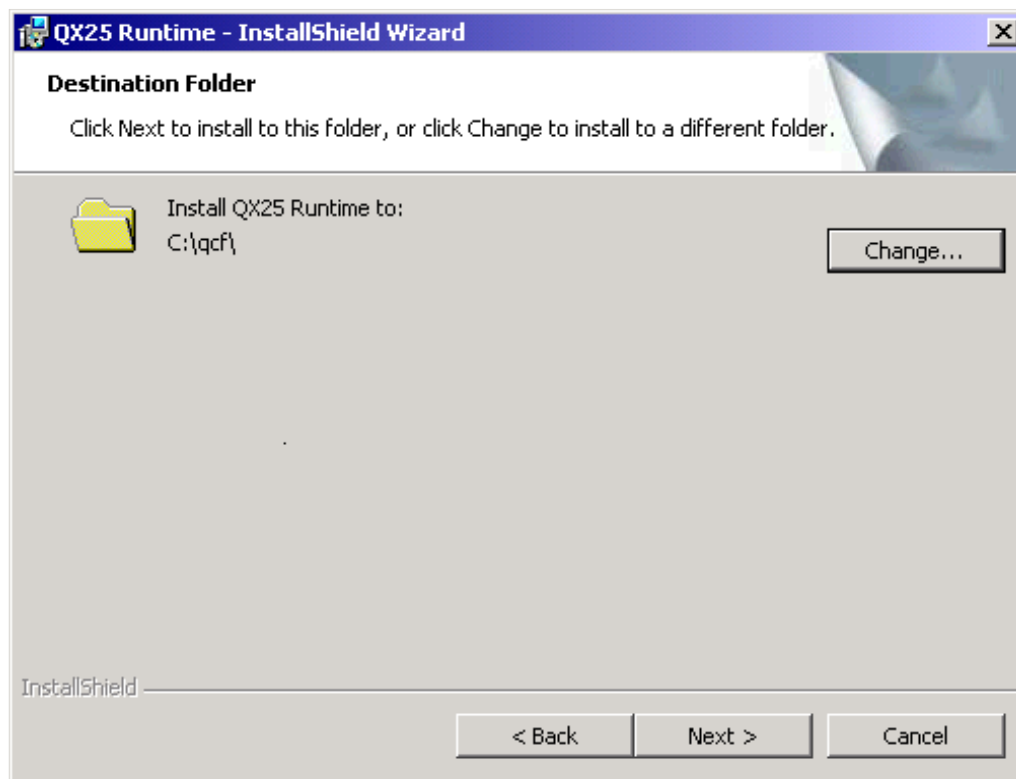

FIGURE 159. Updated destination folder
17. The Destination Folder window appears again, but this time, with the proper directory as shown in Figure 159.